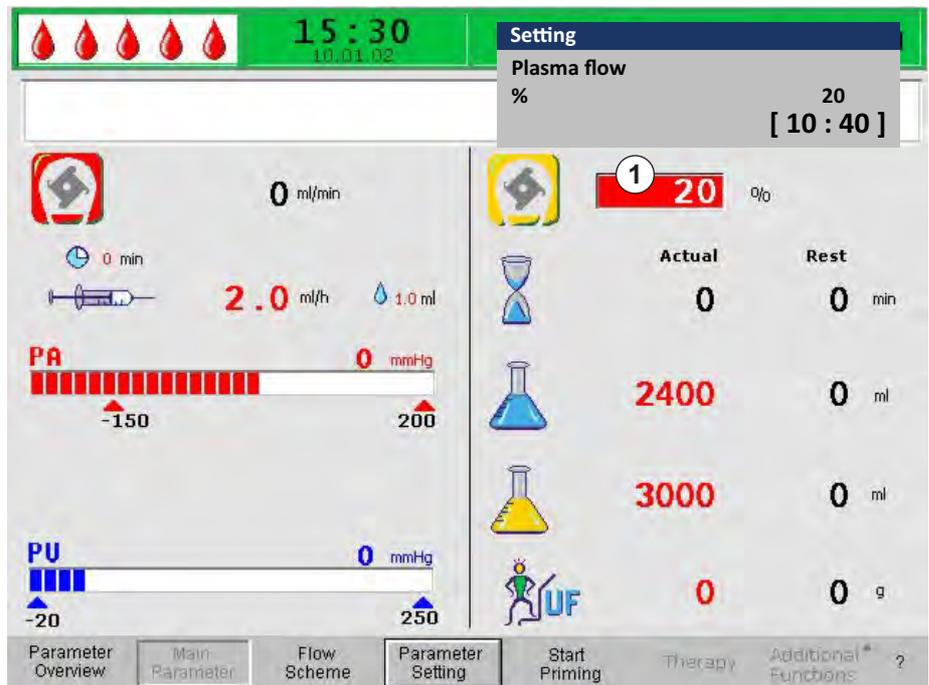

Fig. 3-19 Parameter setting in the *Main Parameter* screen
- ↪ The parameter value field is shown with a red background and white labeling (Fig. 3-19, ①).